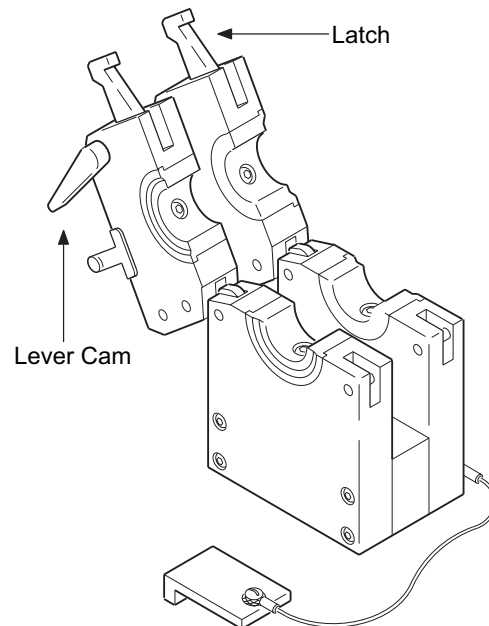

Figure 21 Lever Cam and Latch
6. Check the lever cam and latch for smooth operation. See Figure 21.